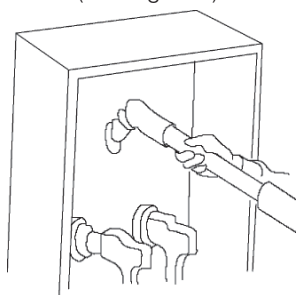

Figure 1
2. Attach Hot-Line tool to handle eye, Stand to one side and unlock the handle. (See Figure 1)